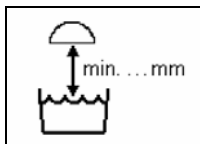

Figure 1 - Minimum distance from water level symbol
- (1) 【原文】 11.5.1_ Information shall be provided and/or the following symbol (see Figure 1) concerning the minimum distance to the maximum water level of the aquarium shall be marked on the luminaire if it is possible (by the design of the aquarium) that water can reach the luminaire. The minimum distance shall be at least 15 mm.